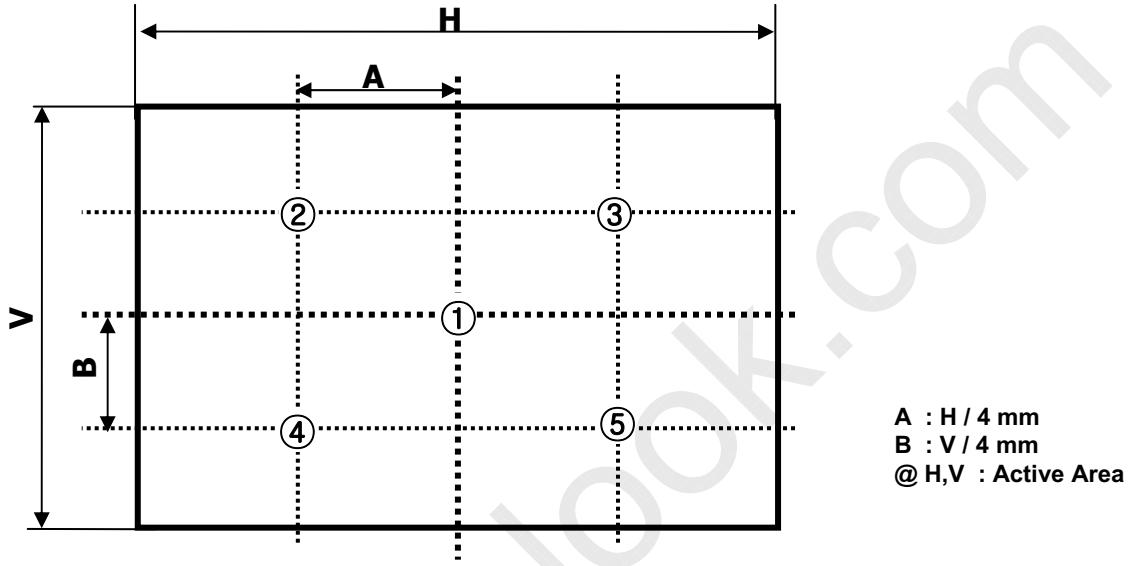

FIG. 2 5 Points for Luminance Measure
2. Surface luminance is determined after the unit has been 'ON' and 60min after lighting the backlight in a dark environment at $25\pm2^{\circ}\text{C}$. Surface luminance is the luminance value at center 1-point across the LCD surface 50cm from the surface with all pixels displaying white. For more information see the FIG. 2.
For more information, see the FIG. 2.